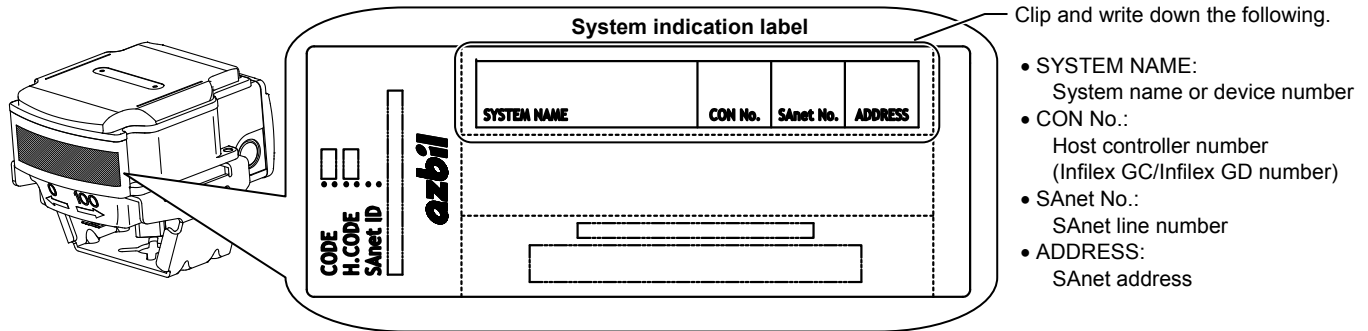

Figure 14. System indication label
2. With Data Setter or PC-MMI, enter the SAnet ID (on the product code label) and address number to set. The product code label is attached on the back face of the actuator, as shown in Fig. 14.